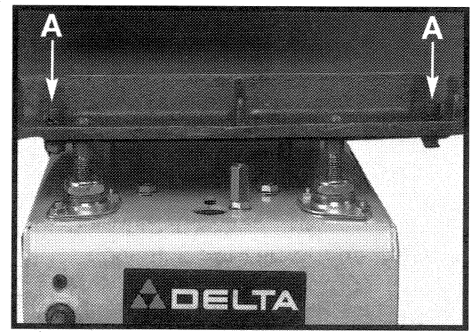

Fig. 32
3. Use a 1/4" hex wrench to remove the four table mounting screws, lockwashers and flange nuts, two of which are shown at (A) Fig. 32.